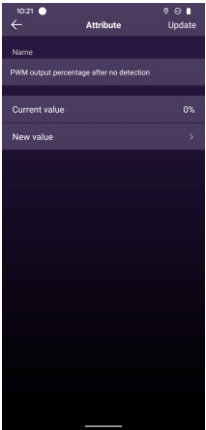

Figure 22
14. The attribute **“PWM output percentage after no detection”** is to set the PWM output percentage value of the **0-10V dimming after delay time expires**. Tap it to enter setting interface, **“Current value”** means current percentage, **“New value”** is to set a new percentage, available setting range is 0~100%, factory default percentage is 0%. Once set a new value, tap **“Update”** button at upper right corner to save the setting (as shown in **Figure 22**).